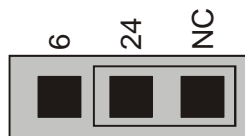

Figure 4. Clock source jumper (default setting)
With revision 4 and higher hardware, you can use the on-board pacer clock to trigger A/D conversions by setting the clock source jumper (labeled **J** on the board) to the **6/24** position. This setting routes the pacer output (pin 6) to the interrupt input (pin 24). By default, this jumper is configured as not connected (NC). Refer to Figure 4.